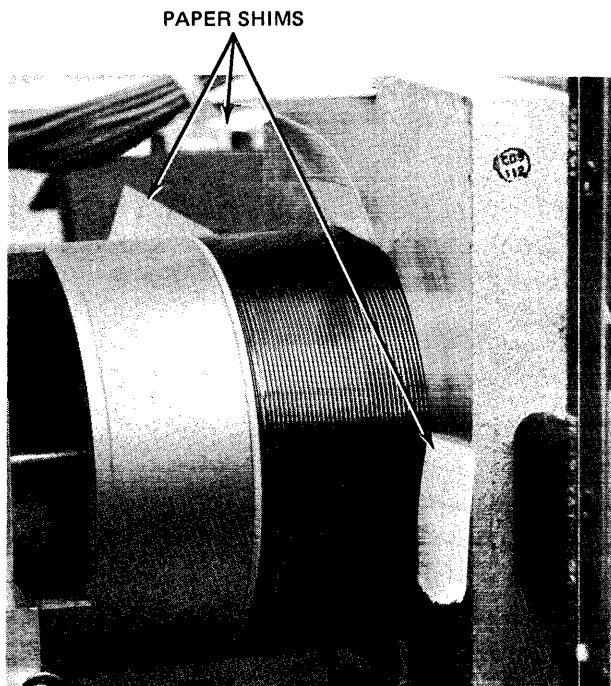

Figure 5-48. Bobbin Adjustment
- d. Place three pieces of shim stock (paper) around the outer flanges of bobbin, and carefully slide bobbin back into motor (see Figure 5-48).